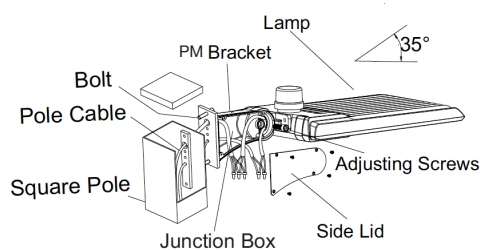
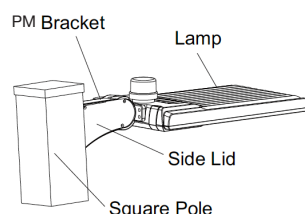
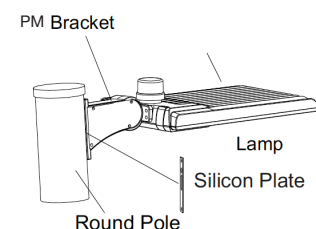

Fig. 18
Fig. 19
Fig. 20
1. Fix PM bracket to square pole with bolt, open the access cover of PM bracket, pull the wire into the junction box, and connect the wire correctly (Fig. 18)
2. Put the connected wire into the junction box, then cover the junction box. (Fig. 19) **Note:** Adjustable angle is 0-35° (Fig. 18). Same as round pole installation, remember to remove the silicone plate when installing the fixture on a round pole (Fig. 20).